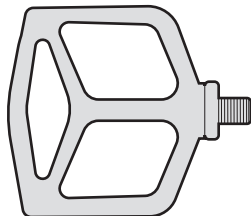

fig . 20a
2. Some bicycles come equipped with pedals that have sharp and potentially dangerous surfaces (fig. 20a). These surfaces are designed to add safety by increasing grip between the rider's shoe and the pedal. If your bicycle has this type of high-performance pedal, you must take extra care to avoid serious injury from the pedals' sharp surfaces. Based on your riding style or skill level, you may prefer a less aggressive pedal design, or chose to ride with shin pads. Your retailer can show you a number of options and make suitable recommendations.